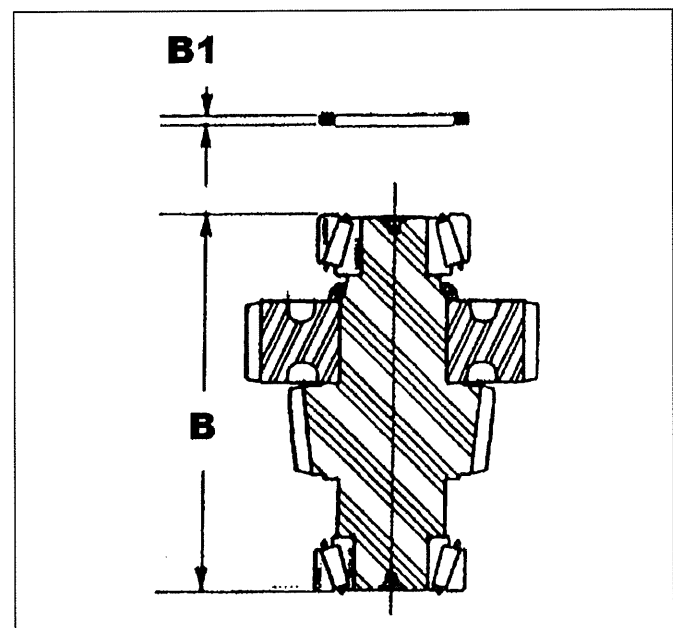

Figure 1-6: Intermediate shaft with bearing
5. Press the two bearing cones (139 & 141) on the intermediate shaft (140), place cups (137 & 142) on the cones and clamp with moderate pressure to assure proper bearing to roller seating (figure 1-6).
6. Measure the distance across the two cups with a seven (7) inch micrometer. **This is measurement "B"** as illustrated in figure 1-6.
8. **Add .009 inch** (.007-.010 inch) to the measurement determined in step 7. **This will be the shim thickness needed to achieve proper intermediate shaft pre-load (B1 in figure 1-6).**
9. Place the shims (138) determined in step 8 in the cover (129) bearing pocket and install bearing cup (137) over them.
10. Install intermediate bearing cup (142) in the case (160).
11. Install output shaft bearing cup (156) and output seal (117) in case (160) and rotate case so that the gasket surface is up.
12. Press bearing cones (152 & 155) on output shaft (153) and insert into case (160). **Be careful not to upset the garter string behind the seal's lip.**
14. Install O-ring (145) on pick-up tube (144) using petroleum jelly and install pick-up tube assembly into case (160). Secure pick-up tube and oil shield with bolt (143) using Loctite®.
15. Position input clutch assembly (131) and lay clutch assembly (132) into case (160). Make sure the clutch gears are resting at the same level.
16. Insert intermediate shaft assembly (140) into case (160).